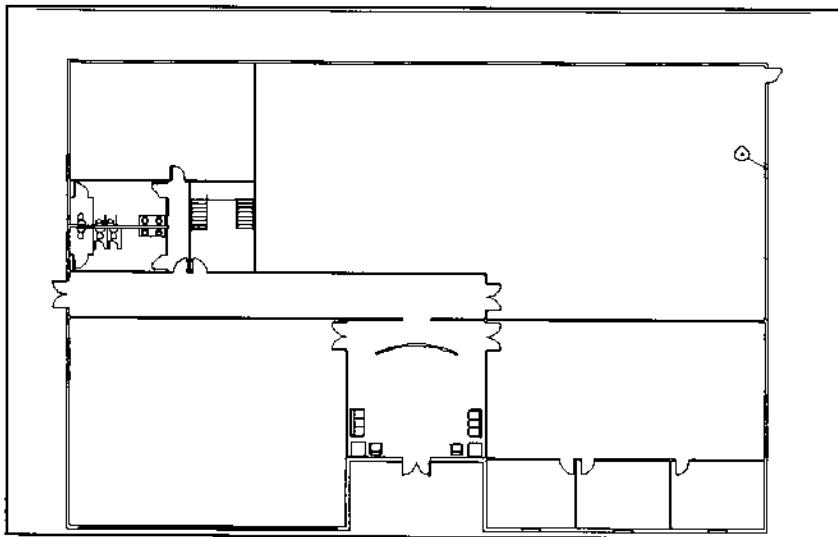

Figure 85.
6. The completed plan showing the 3D stair, furniture, and plumbing symbols is shown in Figure 85.